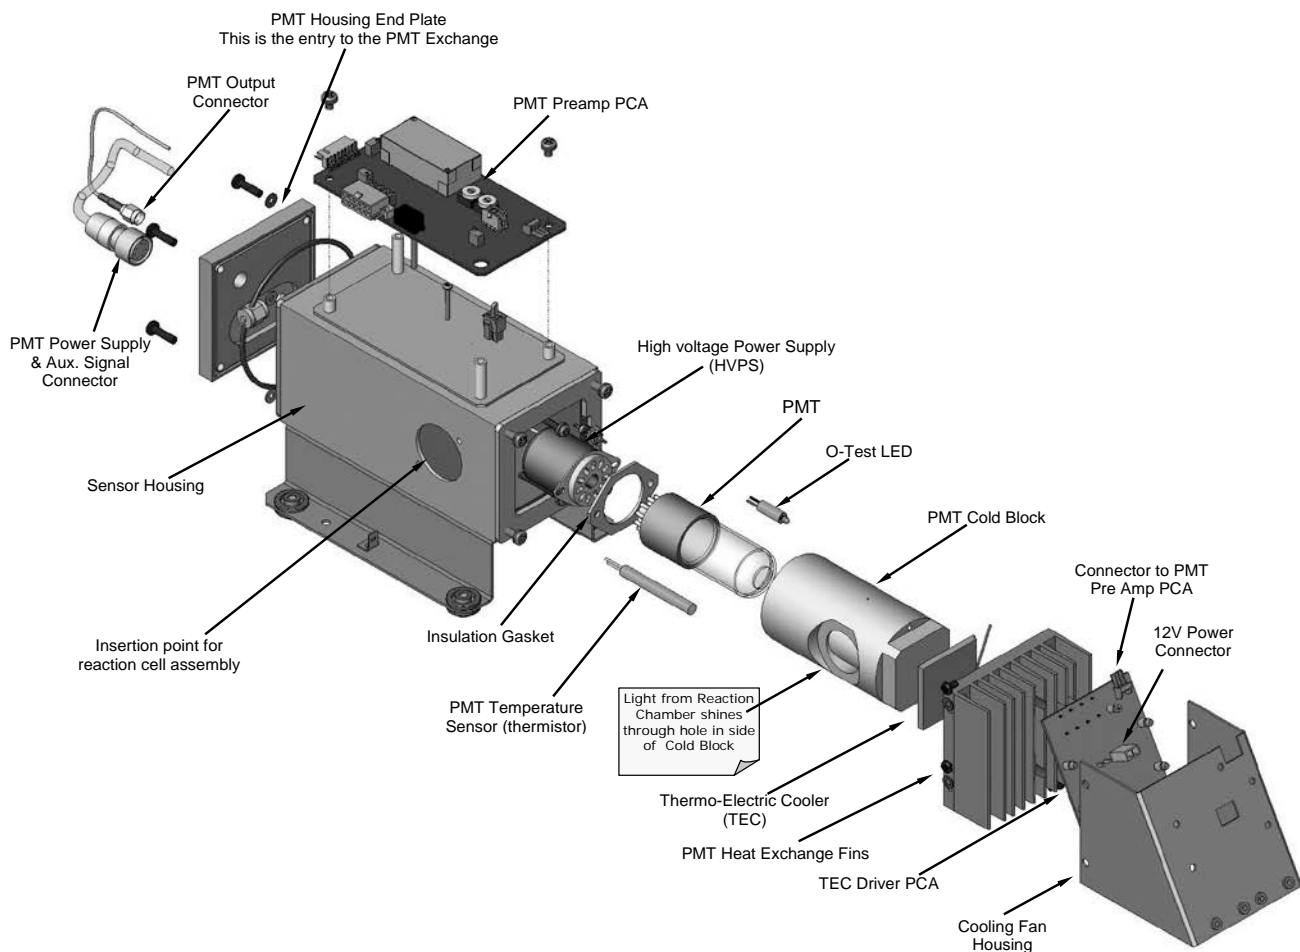

Figure 7-18: T200H/M Sensor Assembly
The photo multiplier tube (PMT) should last for the lifetime of the analyzer. However, in some cases, the high voltage power supply (HVPS) or the thermo-electric cooler (TEC) may fail. In case of PMT, HVPS or TEC failure, the sensor assembly needs to be opened in order to change one of these components. Refer to Figure 7-18 for the structure of the T200H/M sensor assembly and follow the steps below for replacement of one of its components. We recommend to ensure that the PMT, HVPS or TEC modules are, indeed, faulty to prevent unnecessary opening of the sensor.
7. Along with the plate, slide out the OPTIC TEST (O-Test) LED and the thermistor that measures the PMT temperature (shown in Figure 7-18).